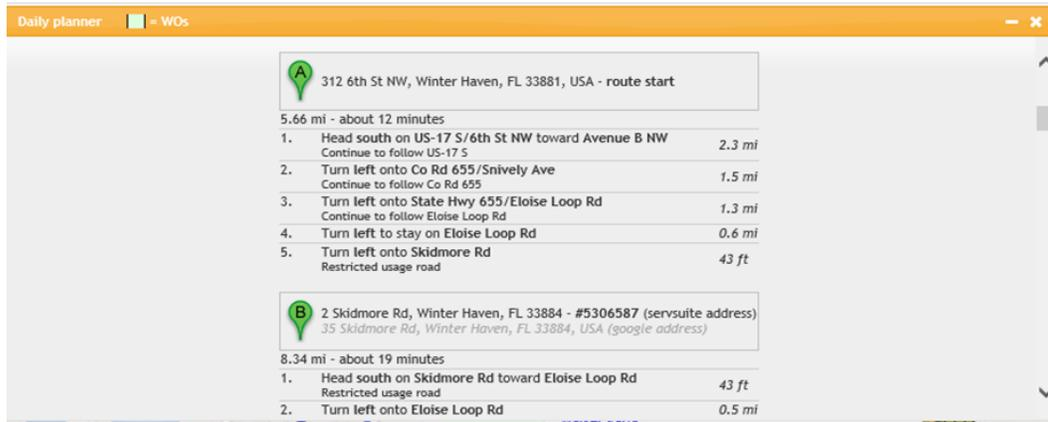

Figure 20
4. Scrolling down displays a list of directions for each stop including estimated drive time and distance (Fig. 20).